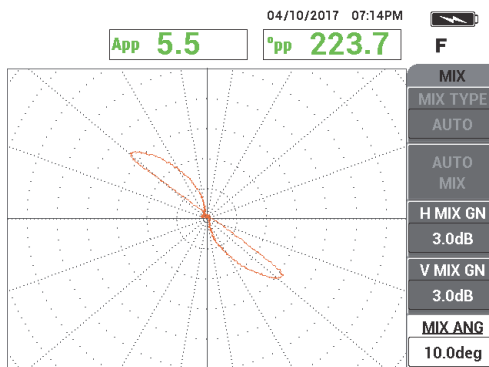

Figure 5-172 The thru-wall hole signal after AUTO MIX angle adjustment
8. Press **MIX ANGLE** (E key), and then rotate the **MIX** signal until the hole signal reaches a phase of approximately 40° (see Figure 5-172 on page 249).